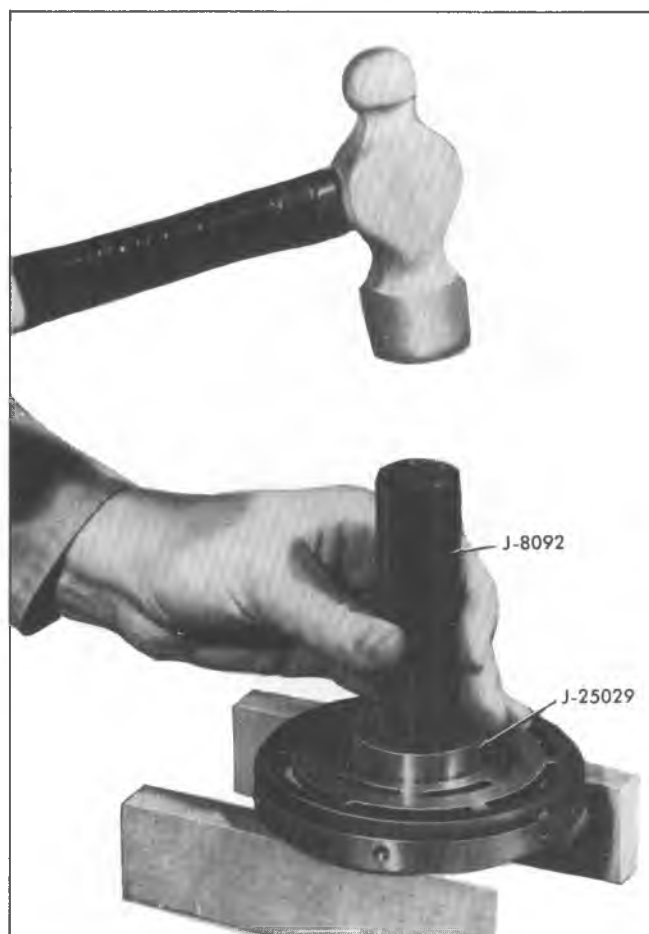

Fig. 82--Removing Clutch Rotor Bearing
2. Place rotor and bearing assembly on blocks (Fig. 82) and drive bearing out of rotor hub with rotor bearing remover and rotor assembly installer J-25029. It will not be necessary to remove the staking at the rear of the